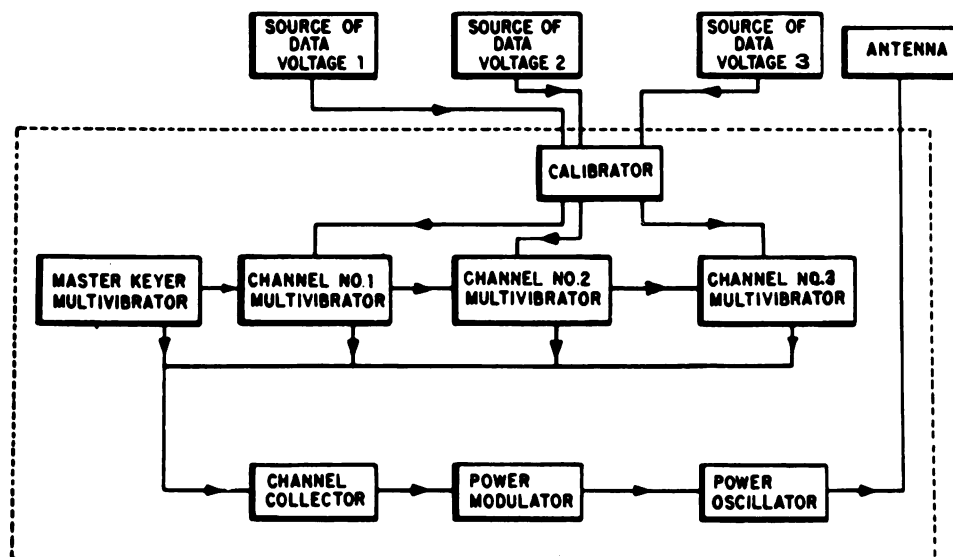

Figure 5G.—Block diagram of 3-channel airborne telemetering unit with electronic commutation.
Items 29 through 31 refer to the airborne telemetering unit in figure 5G. You will find an explanation of this system on page 338 of your textbook.
31. The channel No. 3 multivibrator in figure 5G is triggered by the
30. Assume that you are on duty in a telemetering ground station which receives the signal transmitted by the unit shown in figure 5G. What part of the received signal should you examine in order to determine the original value of data voltage 2?